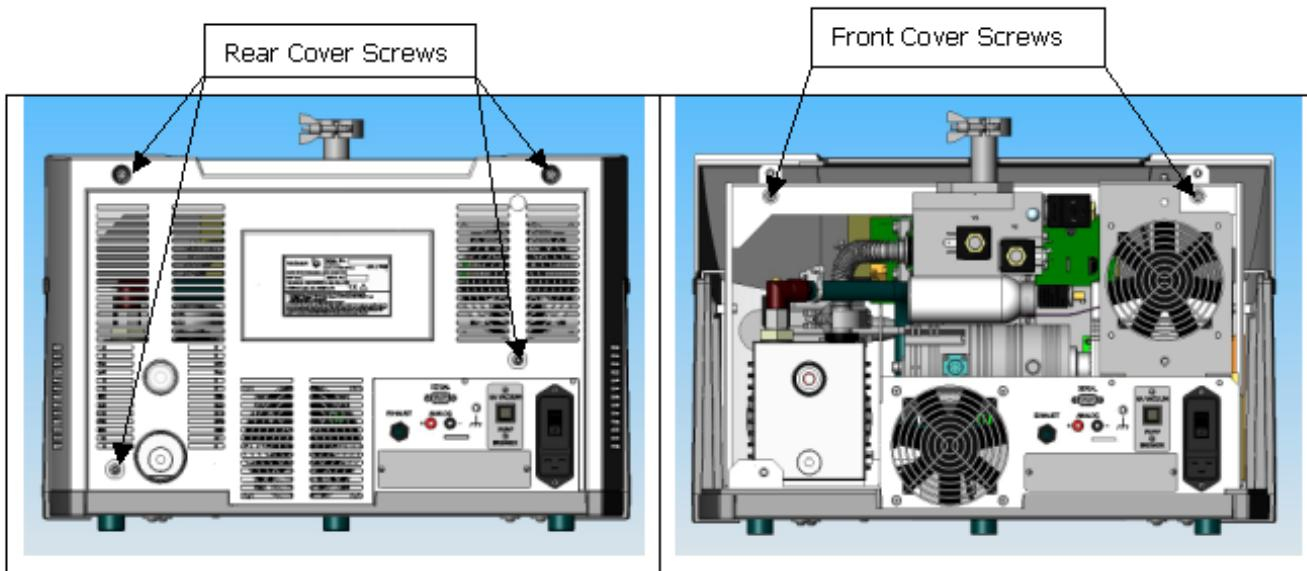

Figure 7: Rear and Front Cover Screws
3. Using an extended length M5 Allen wrench, remove the four screws holding the rear plastic cover (Figure 7: Rear and Front Cover Screws) and detach the rear plastic cover from the unit.